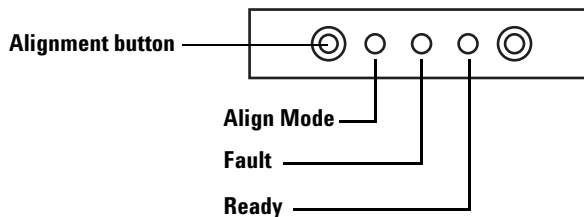

Figure 78 Align the sample tray
- 1 Use a long, narrow object (such as a pen tip) to press the recessed Alignment button to the left of the indicator lights. Avoid contact with anything behind or around the button inside the recessed hole (Figure 78).